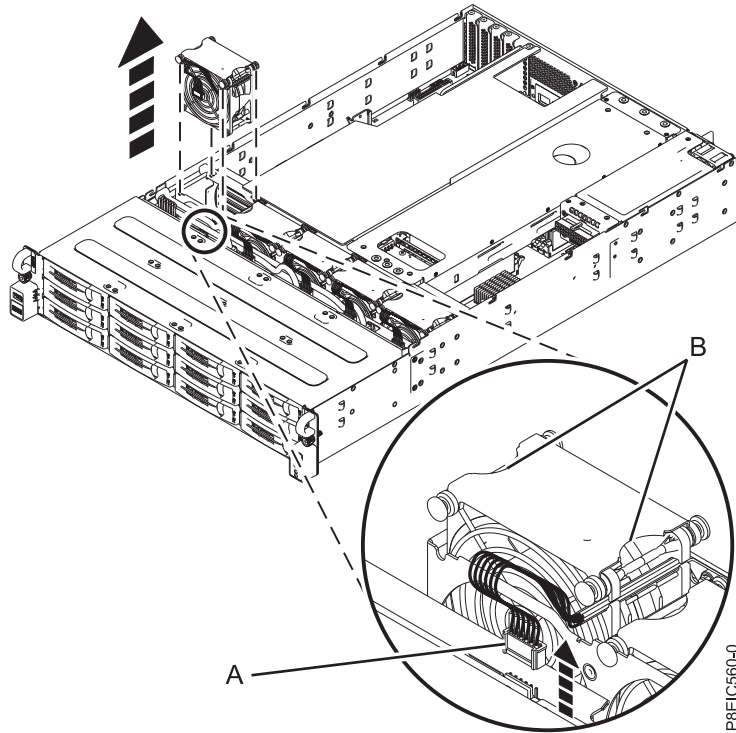

Figure 37. Disconnecting the fan cable and removing the fan
2. To disconnect the fan cable, grasp the connector (A) and carefully pull the connector up from the disk drive backplane, as shown in Figure 37 on page 31. Do not pull on the wires.
3. Grasp the fan at **(B)** and lift it from the system, as shown in Figure 37.